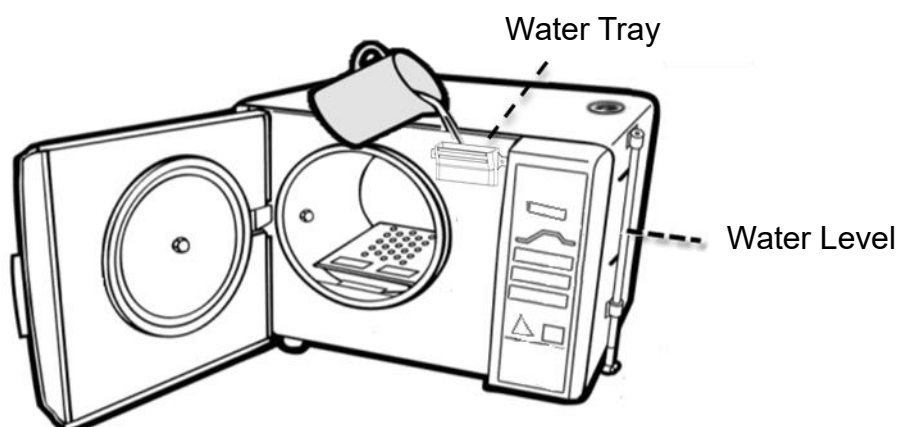

Figure 26
A. Pouring distilled water into the water tray as Figure 26.